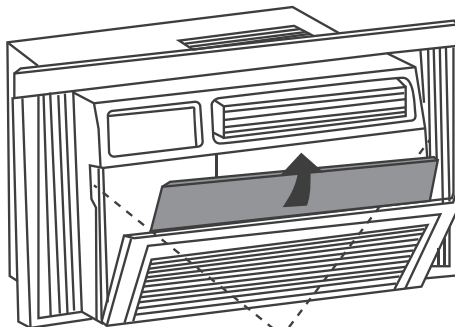

Fig.14
- Take off the power plug, and remove the filter by sliding it out from the front right side of the air conditioner. (See Fig.14)